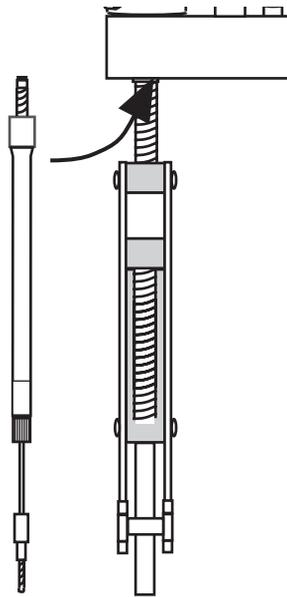

Figure 5-4 Installing the Syringe
1. Screw the new syringe assembly partially into the mounting block (Figure 5-4). Do not tighten.